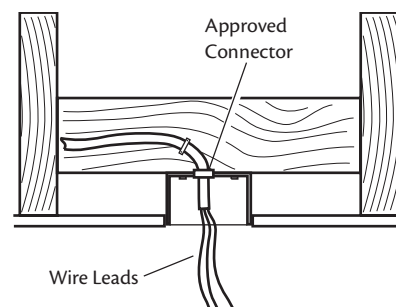

Figure 7 - Preparing the wiring
2. Thread the fan supply line through the outlet box so that the fan supply line extends at least 6" beyond the box as shown in Figure 7.
3. Attach the fan supply line to the outlet box with an approved connector, available at any hardware store or electrical supply house. Refer to Figure 7.